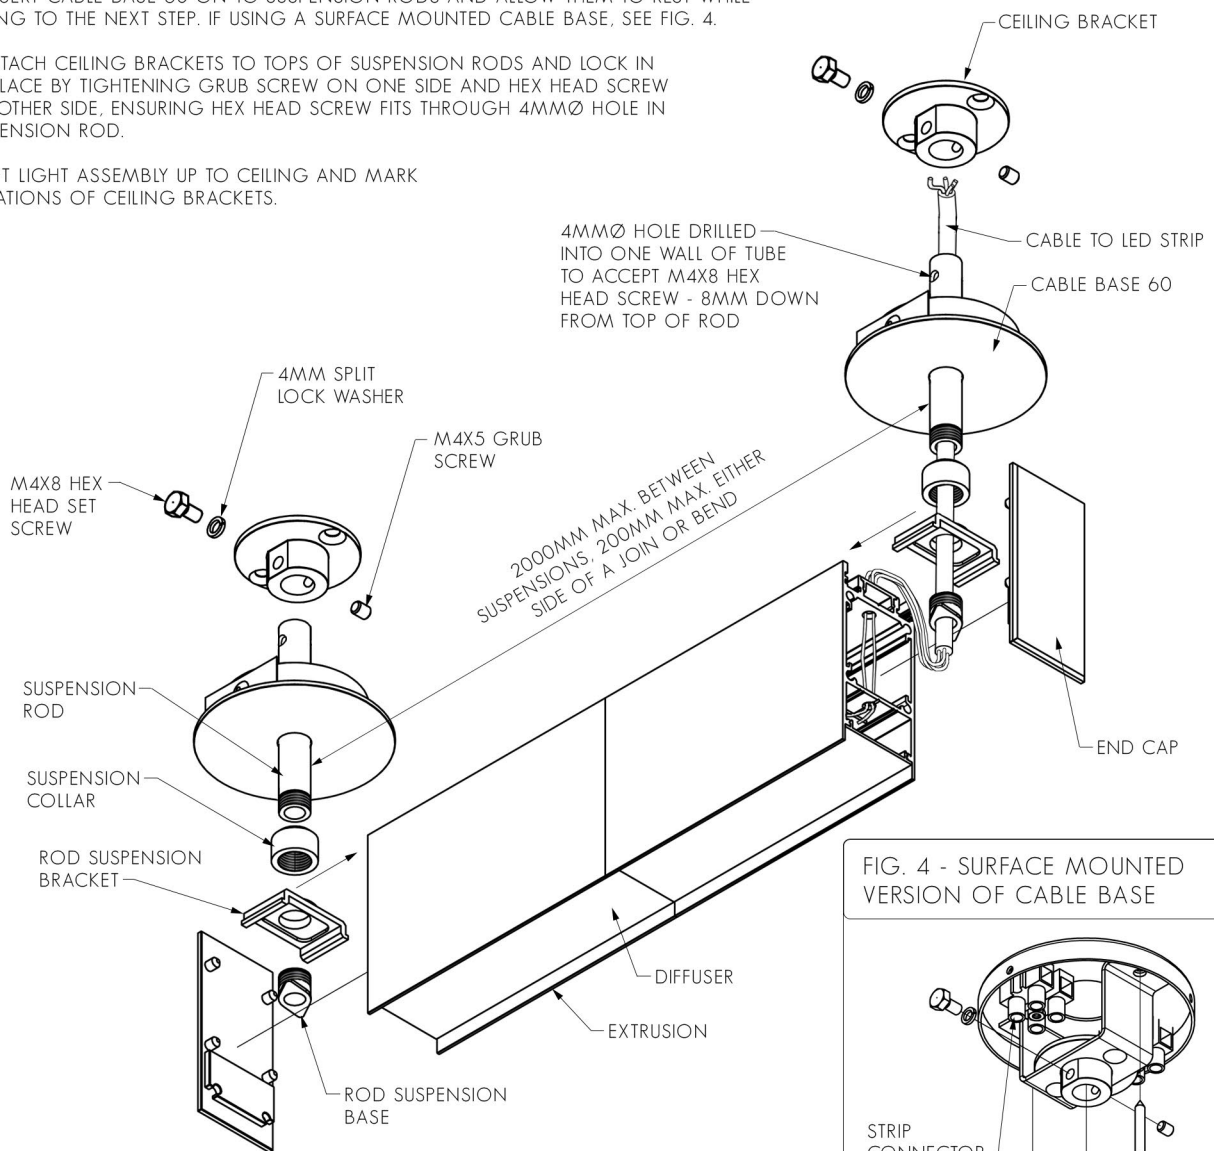

FIG. 4 - SURFACE MOUNTED VERSION OF CABLE BASE
6. INSERT CABLE BASE 60 ON TO SUSPENSION RODS AND ALLOW THEM TO REST WHILE GOING TO THE NEXT STEP. IF USING A SURFACE MOUNTED CABLE BASE, SEE FIG. 4.